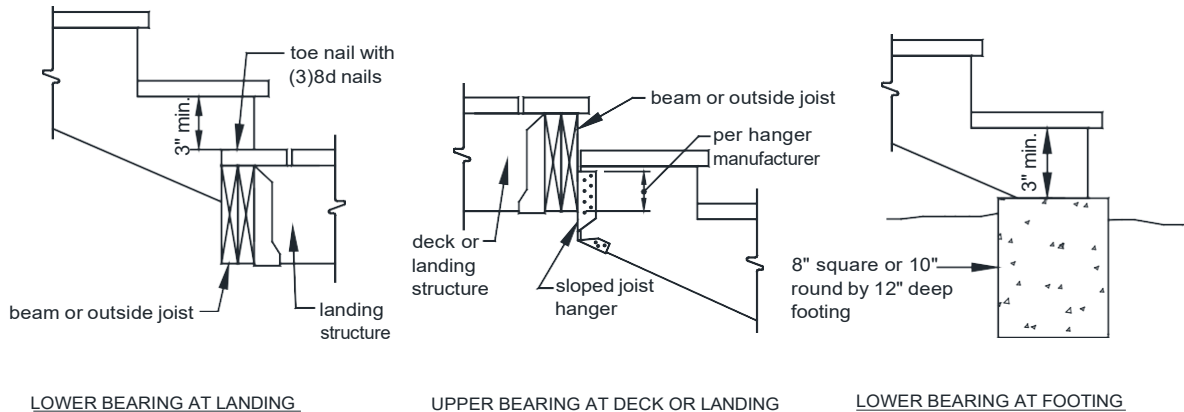

FIGURE 32 - STRINGER BEARING
- Stringers shall bear on footings and attach to the deck or landing per Figure 32.